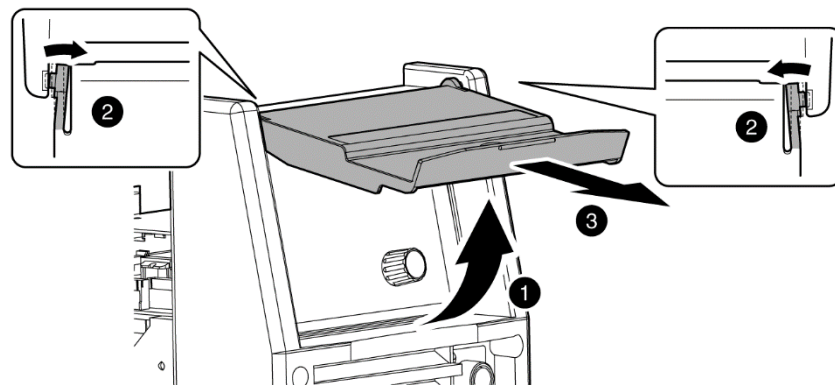

Figure 5-1 VRD ON/OFF Step A
- a) Remove the clear plastic cover from the control panel (see Figure 5-1).